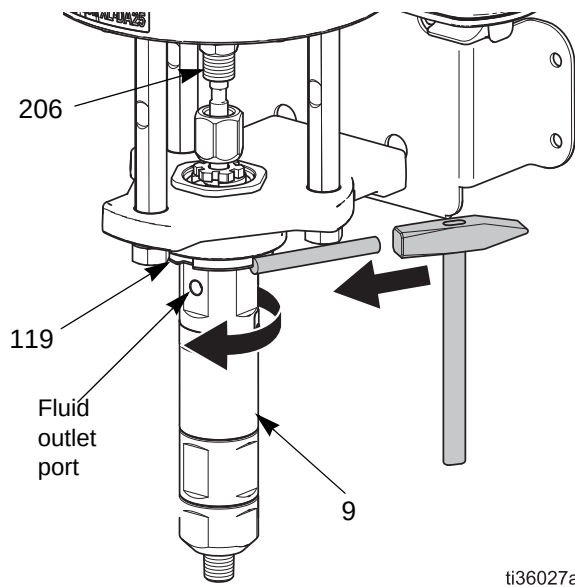

FIG. 5
6. Align the fluid outlet port away from the mounting bracket, as shown in FIG. 5, and tighten the jam nut (119).
7. Hold the flats of the motor plunger (206) with a wrench. Use another wrench to tighten the coupler nut (11). Torque the coupler nut (11) to 75-80 ft-lbs (102-108 N•m).
8. Hold the drip shield (4) out of the way and replace the tie rod shield (15).